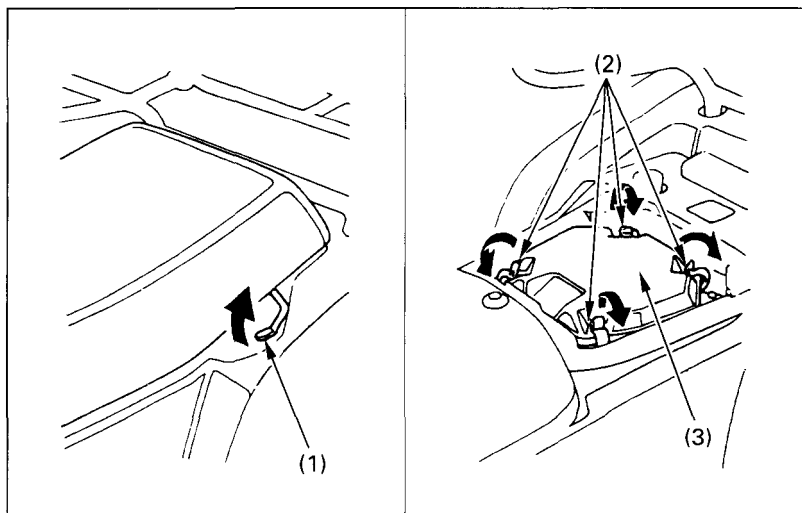

Fig. 4-5
1. Remove the seat by pulling up the seat lock lever (1) (Fig. 4-5).
2. Unlatch the four retainer clips (2) and remove the air cleaner housing cover (3).